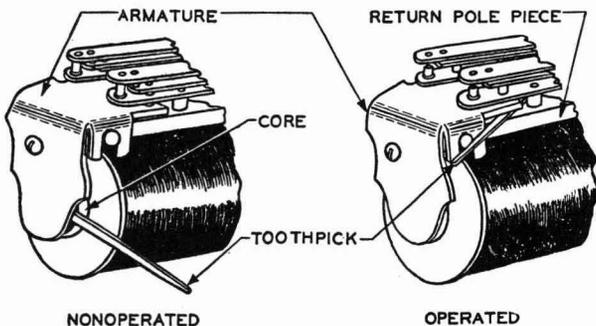

Fig. 14—Blocking Stromberg-Carlson 200-type Relays
3.16 **Stromberg-Carlson 200-type Relays:** Fig. 14—Block relays nonoperated by inserting a toothpick between the armature and the core. Block relays operated by inserting a toothpick between the armature and the return pole piece.